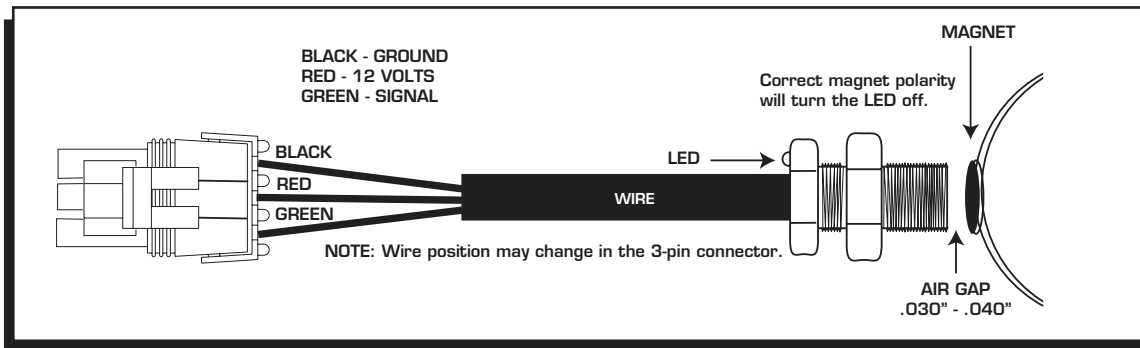

Figure 2 Installing the Hall-Effect Pickup.
2. Before installing the magnet, the polarity must be correct. Connect power and ground to the pickup, the LED will light. Pass the magnet over the pickup. When the LED turns off, the polarity is correct (Figure 2).